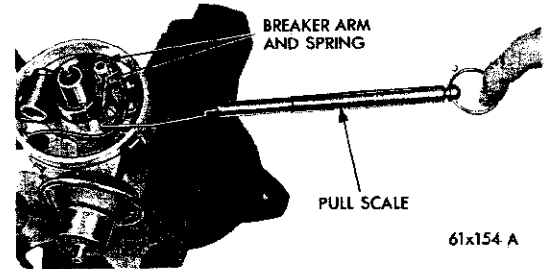

Fig. 89—Testing the Breaker Arm Spring Tension
(1) Hook a spring scale Tool MTU-36 on the breaker arm and pull in a straight line at right angles to the point surfaces (Fig. 89). Take a reading as the points start to separate under the slow and steady pull of the scale. The spring tension should be as